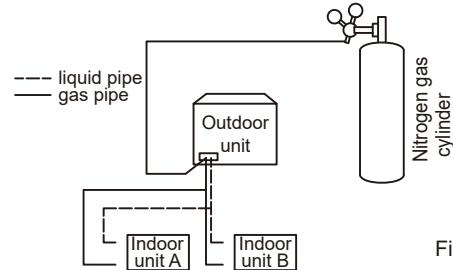

Fig.5.38
- Use blind plugs to block all liquid (gas) side openings, except for the opening at the indoor unit which is furthest from the outdoor units ("Indoor unit A" in Fig.5.38).